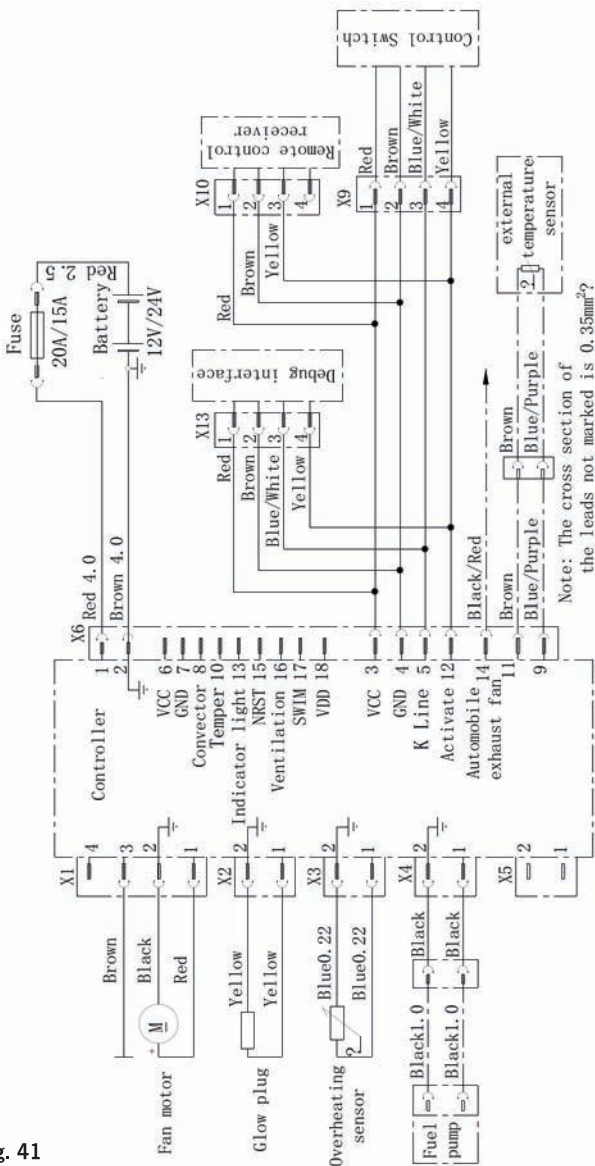
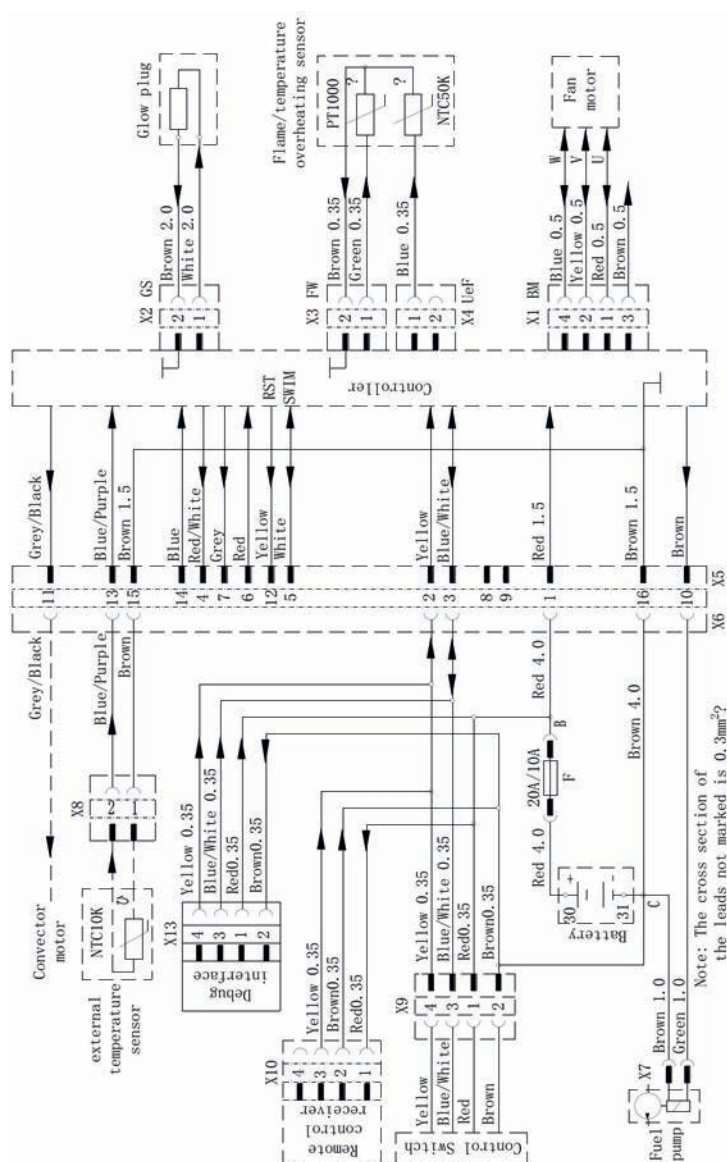

Fig. 41
Fig. 42
- ☐ The wiring diagrams for the heater are shown in Fig. 41 (Page 120) and in Fig. 42 (Page 121).